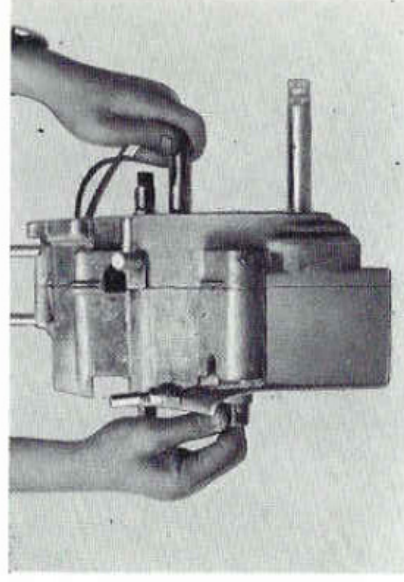

Fig. 8-3-13
7. After joining the cases, turn the countershaft and driveshaft by hand and check to make sure the shafts turn smoothly. (Fig. 8-3-13)